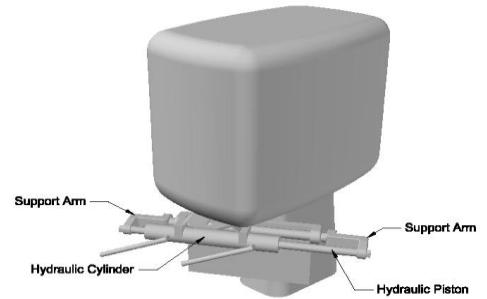

Figure 1 - Outboard Turned to Extreme Port Position
2. Turn the outboard engine(s) to the extreme port position exposing the piston of the hydraulic steering assembly (see Figure 1).